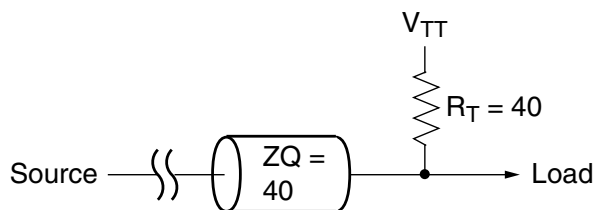
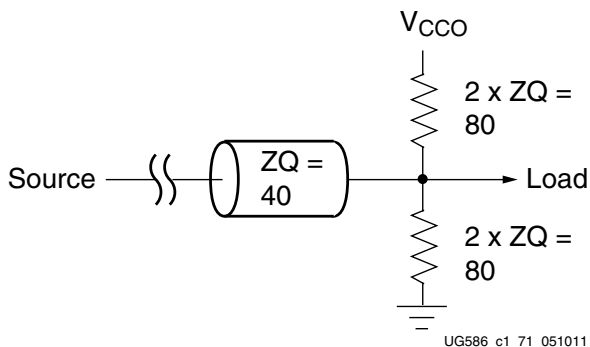
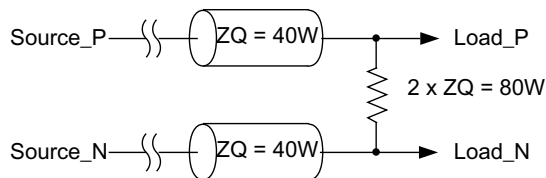

Figure 1-91: 40Ω Termination to V_{TT}
Figure 1-92: 80Ω Split Termination to VCC0 and GND
Figure 1-93: (a) 80Ω Differential Termination
- Single ended 40Ω traces and termination are required for operation at 1,333 Mb/s and higher. 50Ω is acceptable below 1,333 Mb/s. Figure 1-91 and Figure 1-92 are for 1,333 Mb/s and higher.
- Differential 80Ω traces and termination are required for operation at 1,333 Mb/s and higher. 100Ω is acceptable below 1,333 Mb/s. Figure 1-93 is for 1,333 Mb/s and higher.
- Address and control signals (A, BA, RAS_N, CAS_N, WE_N, CS_N, CKE, ODT) are to be terminated with the onboard DIMM termination. If DIMM termination does not exist or a component is being used, a 40Ω pull-up to V_{TT} at the far end of the line should be used (Figure 1-91). Except for the CK/CK_N which requires a differential termination as shown in Figure 1-93.
- A split 80Ω termination to V_{CCO} and a 80Ω termination to GND can be used (Figure 1-92), but takes more power. For bidirectional signals, the termination is needed at both ends of the signal. ODT should be used on the memory side. For best performance in HP banks, DCI should be used. For best performance in HR banks, IN_TERM (internal termination) should be used.
- Differential signals should be terminated with the memory device internal termination or an 80Ω differential termination at the load (Figure 1-93). For bidirectional signals, termination is needed at both ends of the signal. ODT should be used on the memory side. For best performance in HP banks, DCI should be used. For best performance in HR banks, IN_TERM (internal termination) should be used.